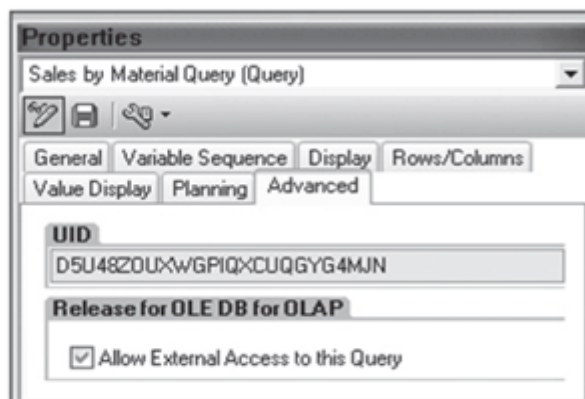

Figure 13.2 Release Query for External Access
- **BEx queries:** There is no restriction on the queries that can be used as a Data-Source to a universe. This means that a universe can connect to any BEx query, independent of the InfoProvider over which the query is built. However, for any query to be accessed by a universe, it needs to be released for external access (Figure 13.2).
One of the prerequisites for creating a universe on a BEx query is that the query has to be released for ODBO (as shown in Figure 13.2, earlier). The rest of the steps are similar to InfoCubes: